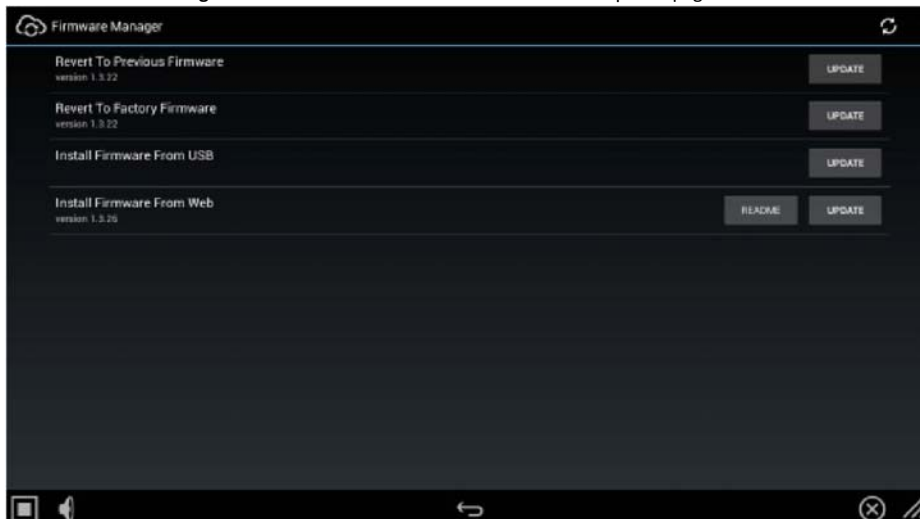

FIG. 116 Firmware Manager window
Select **Firmware Manager** under UPDATE MANAGER in the Reset and Update page to access the Firmware Manager page (FIG. 116):
1. From the Firmware Manager window (FIG. 116), select Revert to Previous Firmware. If no previous version is available, this field is disabled.
1. From the Firmware Manager window (FIG. 116 on page 69), select Revert to Factory Firmware.
3. From the Firmware Manager window (FIG. 116 on page 69), select Install Firmware from USB to open the KIT File Browser window (FIG. 119).
If any firmware updates are available for the panel, the Install Firmware From Web option is presented on the Firmware Manager page (see FIG. 116 on page 69). Note that if High Security mode is set on the panel, web updates are not permitted. See the SYSTEM - Security section on page 60 for details on security modes.
1. From the Firmware Manager window (FIG. 116 on page 69), select Install Firmware from Web.